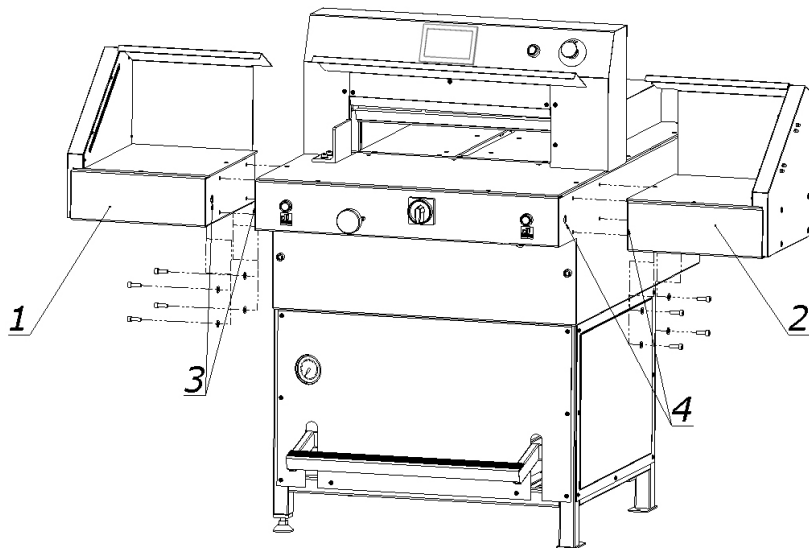

Figure 6b. Installation of the side tables
- with disassembled optional side tables, assemble of tables according to Figure 6b.